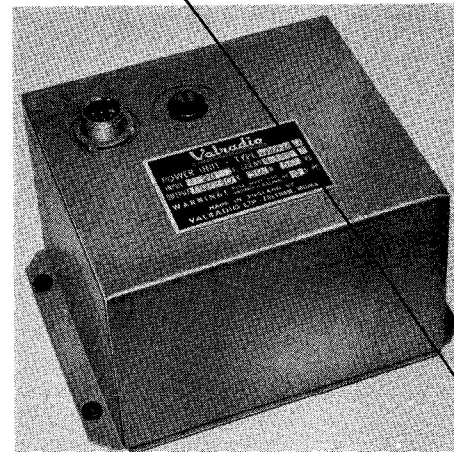

Fig. 1. General view of unit
2. The inverter is enclosed in a sheet steel box, the cover of which consists of the four sides and the top, secured to the base by four 4 B.A. bolts and stiff-nuts. Electrical connection to the unit is made by a 6-pole Plessey socket, Type CZ.48995, which protrudes through a clearance hole in the top of the cover. The 3-amp. fuse carrier protrudes through a second clearance hole adjacent to the socket (fig. 1).